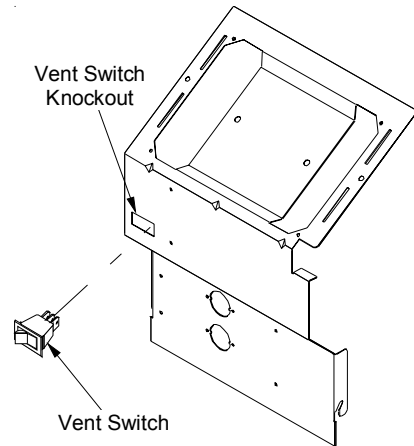

Figure 15
5. Remove the knockout for the vent switch (Figure 15) located in the control panel and snap the vent switch in the knockout hole with the terminals inside the control panel compartment. The numbers on the switch should be facing toward the control board. Place the supplied label just above the switch.